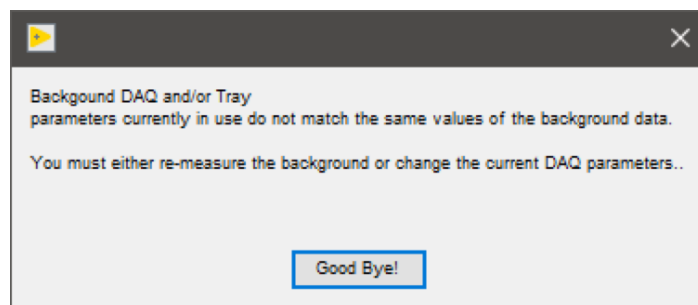

Figure 32- Invalid background measurement warning message
- If **START** is pressed and the background interval and measurement interval are mismatched, the user will receive an error (**Figure 32**) and be sent back to the IMS-SRM main window.